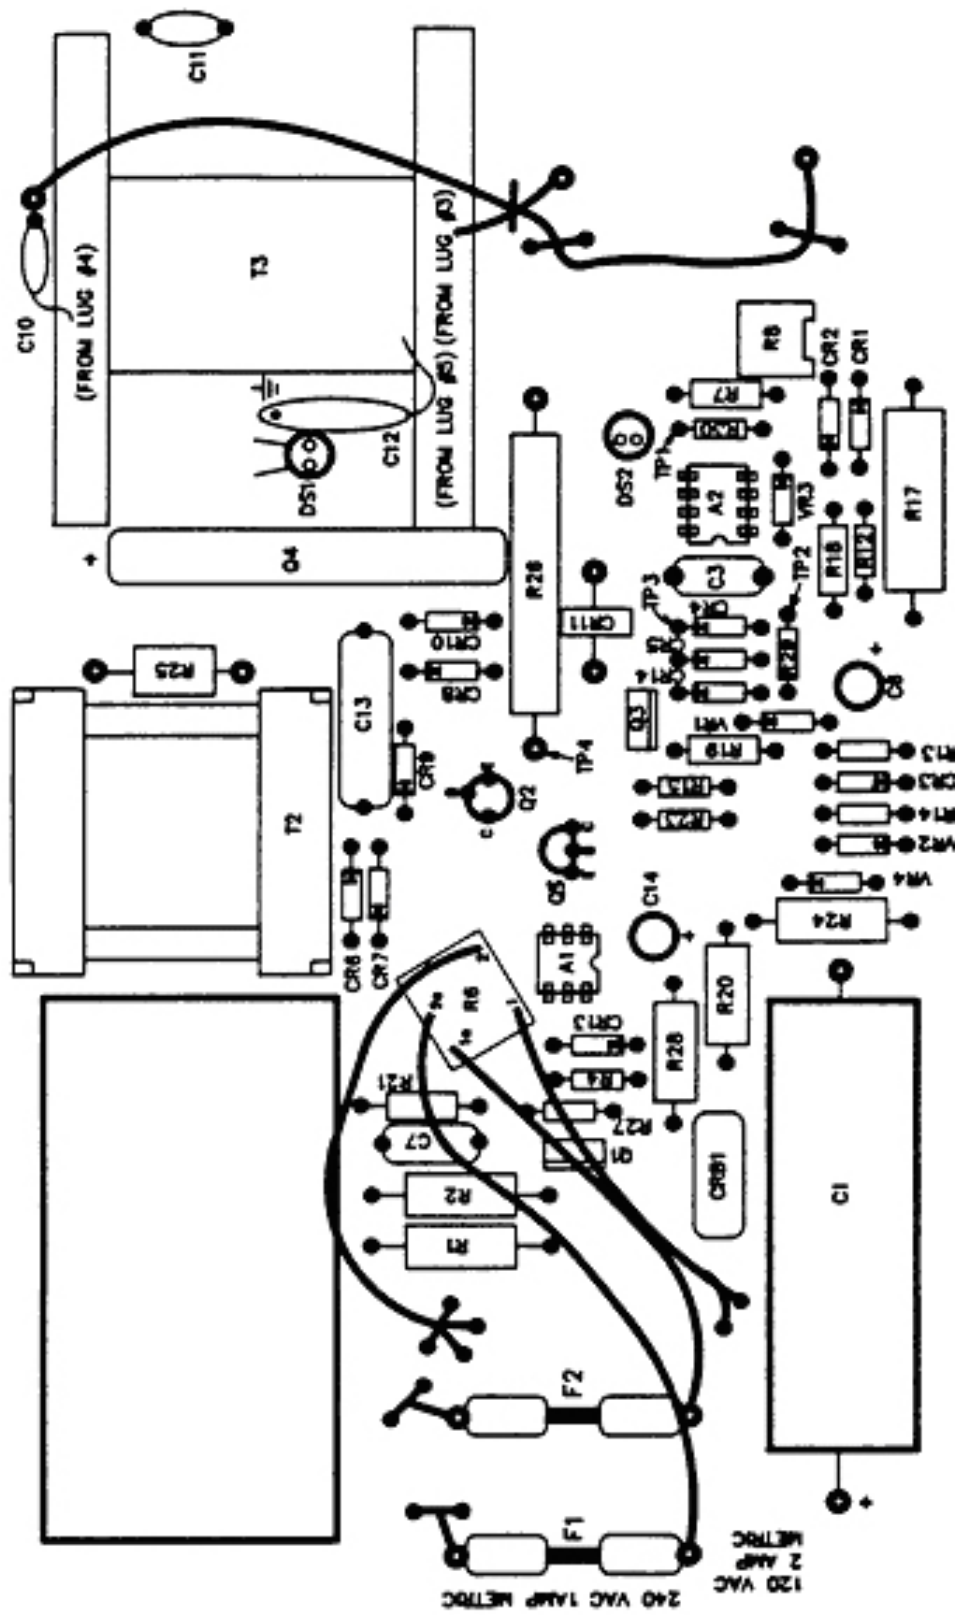

Figure 1-3. Circuit board layout.
- (1) Turn the R8 potentiometer completely clockwise. Refer to figure 1-3.
- (2) Connect the BIPOLAR outputs to the electrosurgical tester.